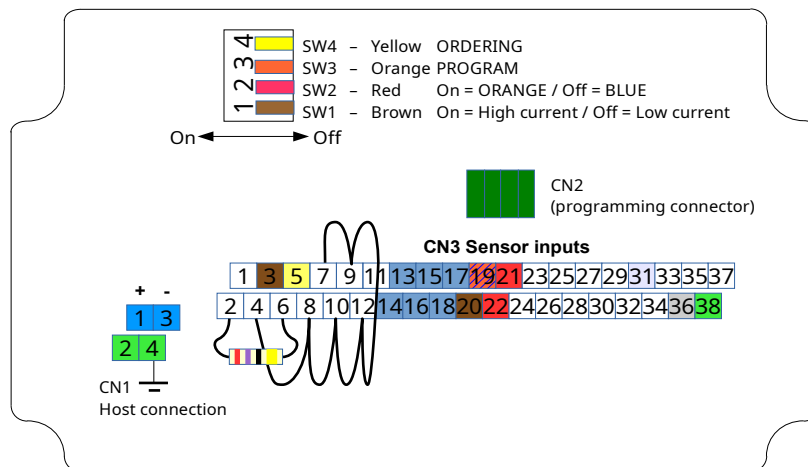

Figure 3: Connection of VITO LT probes
- Connect VITO LT probes according to Figure 3: Connection of VITO LT probes.